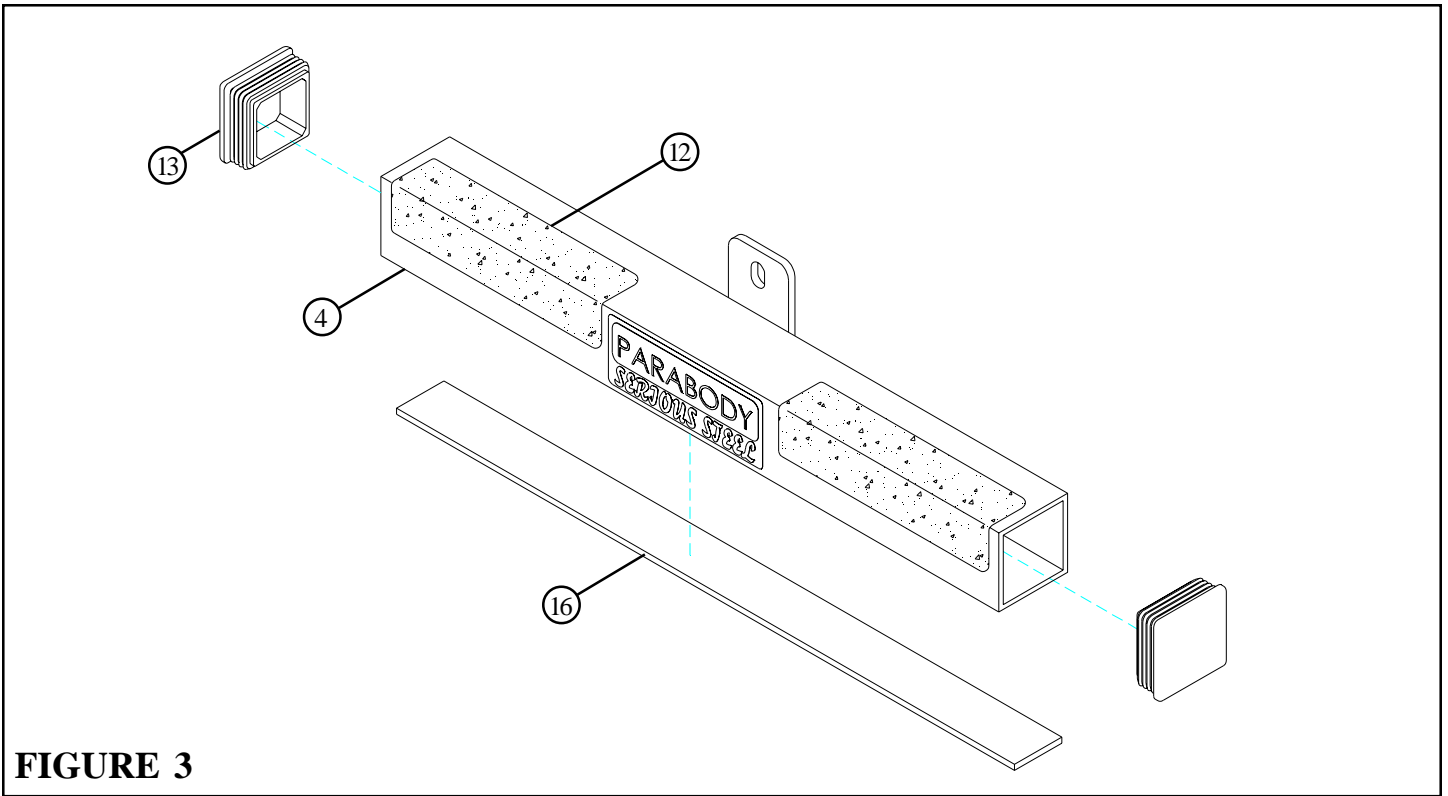

FIGURE 3
- Insert two 2” SQ. END CAPS (13) into the ends of the CROSS BRACE (4) as shown in FIGURE 3.
- Assemble two 2-1/2 X 5-1/2” NON-SKID STRIPS (12) to the CROSS BRACE (4) as shown in FIGURE 3.
- Assemble one 17-1/2” FOAM STRIP (16) to the underside of the CROSS BRACE (4) as shown in FIGURE 3.